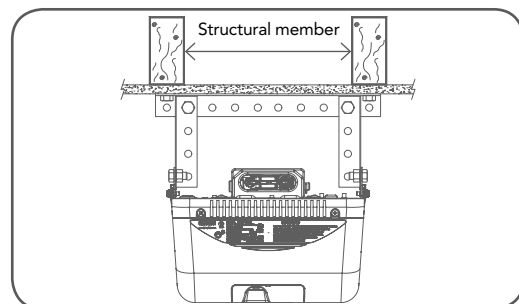

fig 12
- Secure the perforated angle (not supplied) to the ceiling above where drive unit's mounting holes will be once fully installed. A representative mounting is shown (**Fig. 12**)
- Connect the drive unit to the ceiling mounted perforated angle with M8x20mm screws and nuts. Strips should not extend more than 18mm below centre of drive unit's mounting holes (Fig. 12).